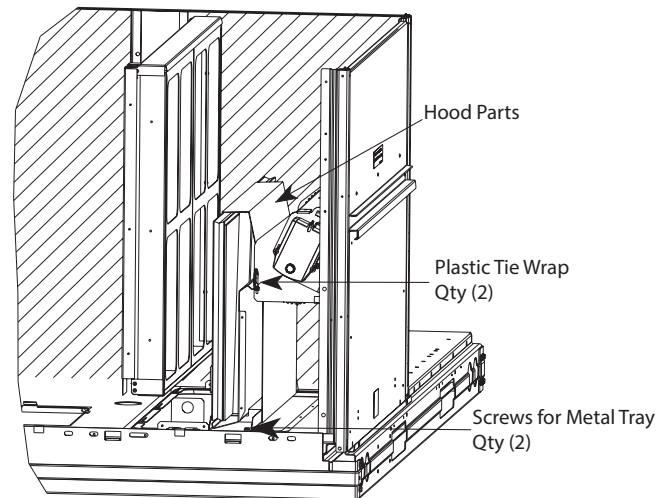

Fig. 11 — Economizer Hood Parts Location
3. Locate the 2 screws holding the metal tray to the basepan and remove. Locate and cut the 2 plastic tie-wraps securing the assembly to the damper. (See Fig. 11.) Be careful to not damage any wiring or cut tie-wraps securing any wiring.